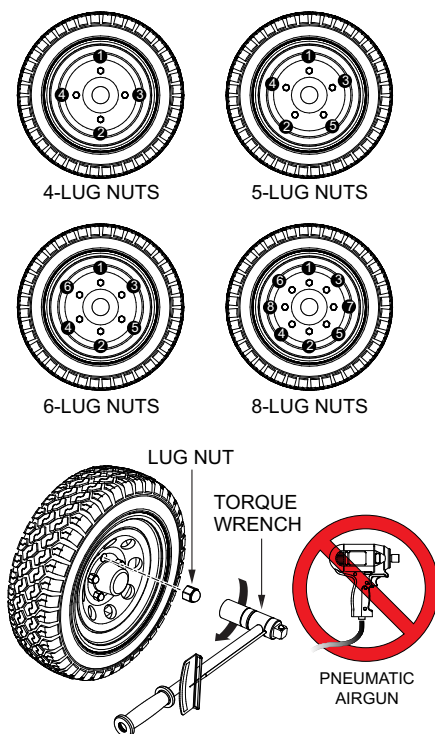

Figure 43. Wheel Lug Nuts Tightening Sequence
2. Torque all lug nuts in sequence. See Figure 43. **DO NOT** torque the wheel lug nuts all the way down. Tighten (torque) each lug nut in 3 separate passes as defined by Table 11.